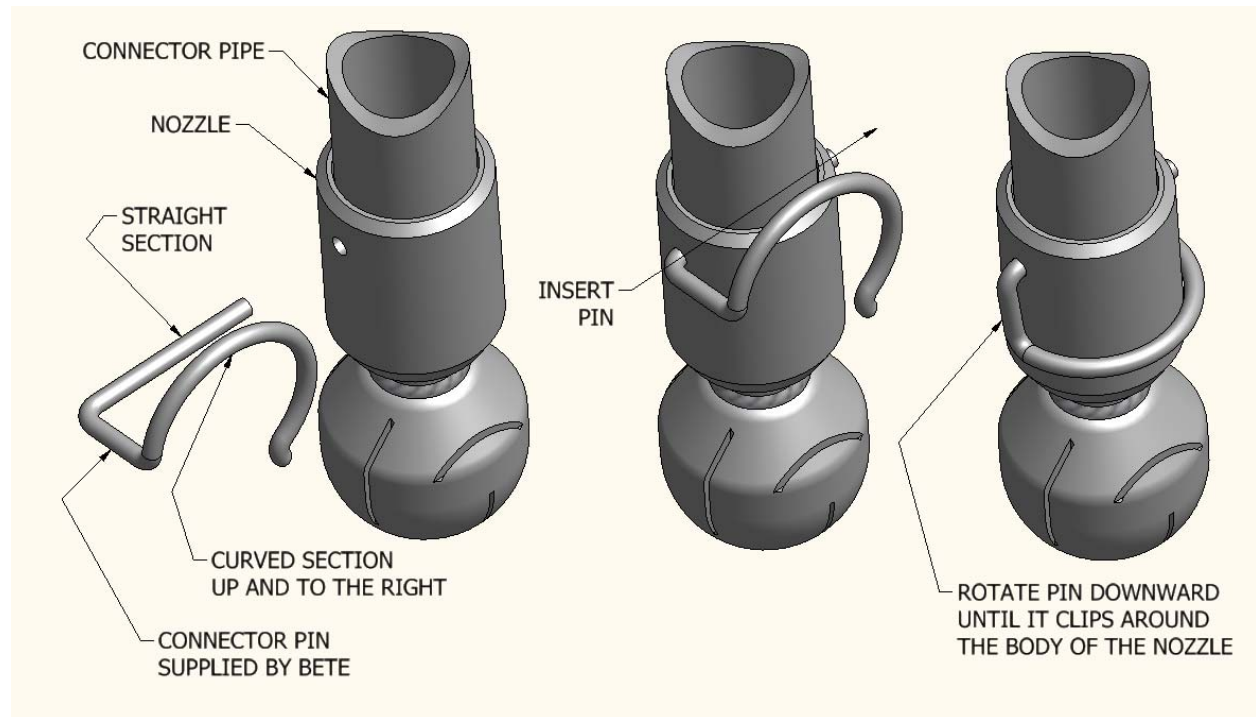

Figure 5 – Final Installation
2. With the curved section of the connector pin up and to the right of the straight section (Figure 5), slide the straight section of the connector pin through the nozzle and the connector pipe